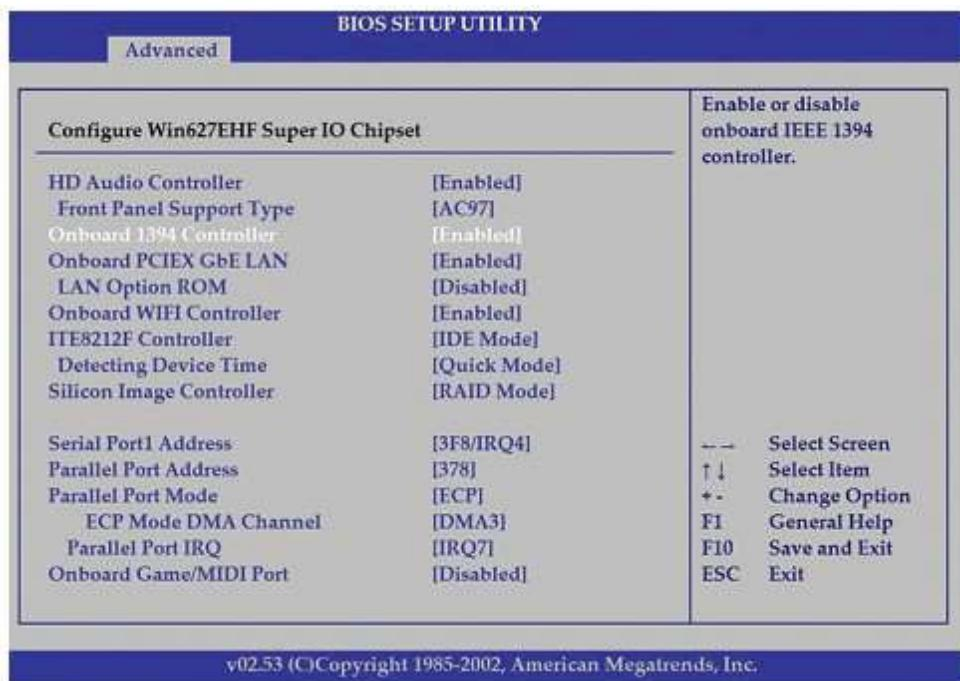

Figure 19
- Check available ports on the motherboard, such as sound, video, USB 1.1, USB 2.0, serial, IEEE 1394, parallel, network, modem, and PS/2 ports. Enable or disable such ports as you require. If you're having a problem with a port, check BIOS setup to make sure the port is enabled (See Figure 19).